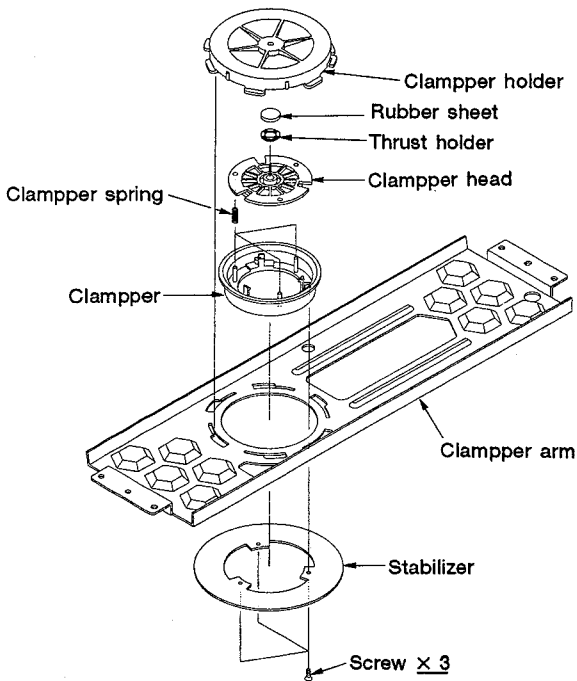

Fig. 2-6 Clampper unit
**④ Clampper Unit (Refer to Fig. 2-6)**
While the servo-mechanism unit is ascending, the disc on the tray is lifted and the clamber waiting on top is pushed up. Clamping force is generated (Fig. 2-6) from the force of the clamp spring between the clamber and clamber head.